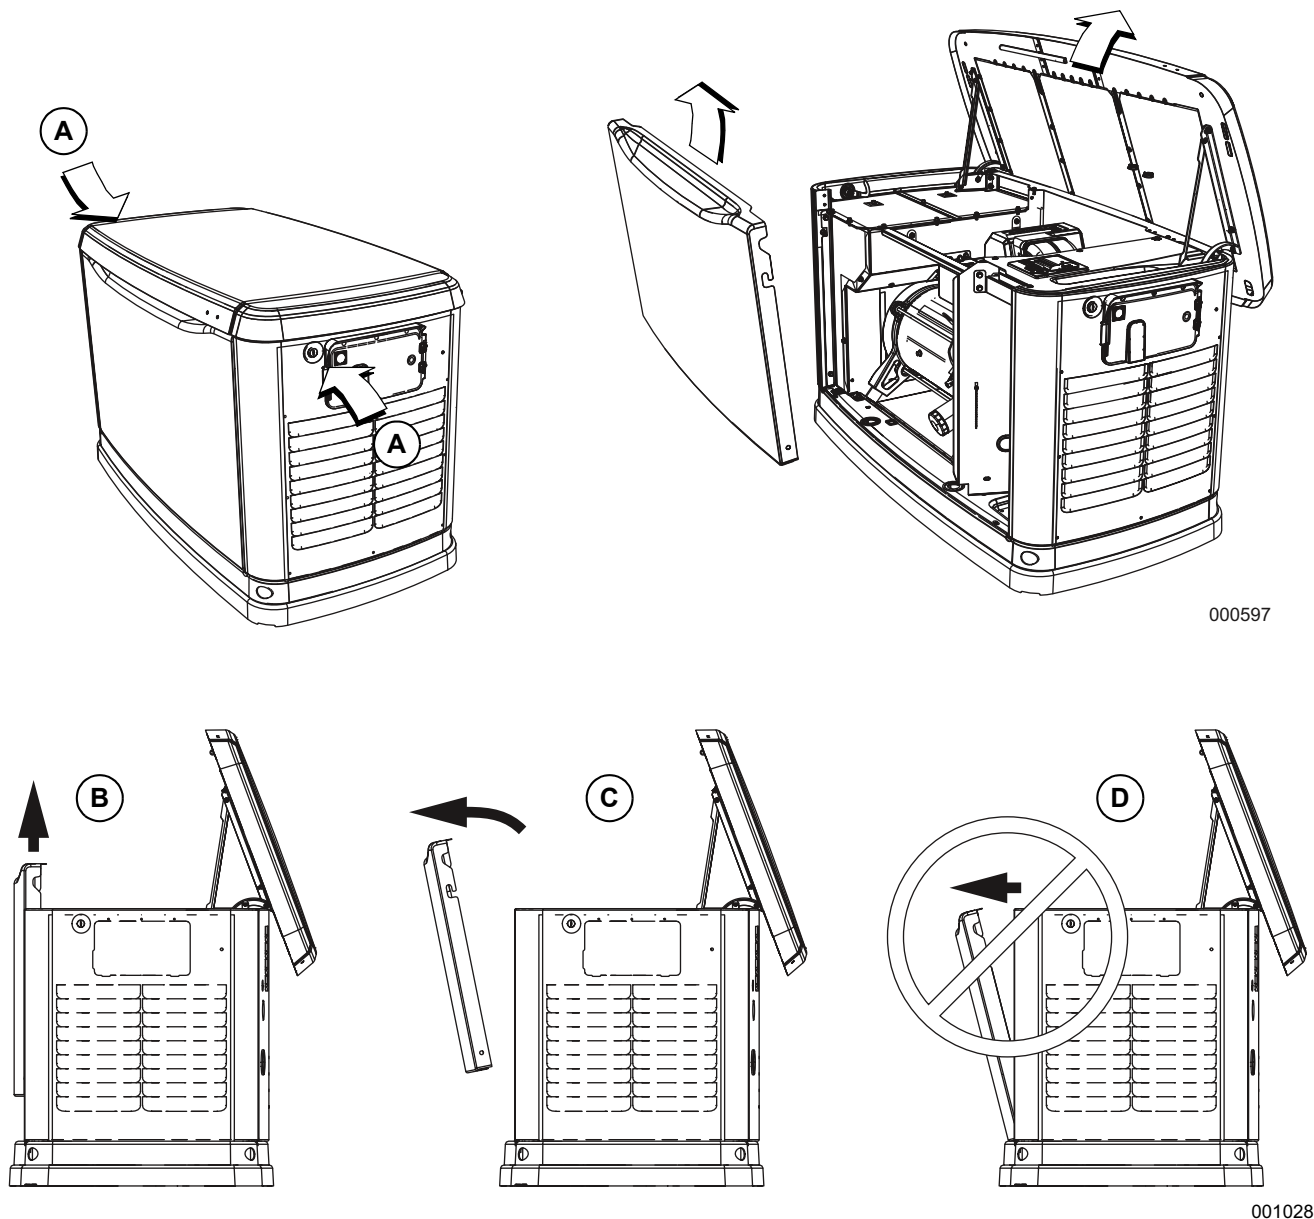

Figure 3-3. Side Lock Location and Front Panel Removal
3. There are two locks securing the lid, one on each side (A in Figure 3-3). To properly open the lid, press down, on the lid, above the side lock and unlock the latch.
NOTE: Always the lift the front access panel up before pulling away from enclosure (B and C in Figure 3-3). Do not pull the panel away from the enclosure before lifting up (D in Figure 3-3).